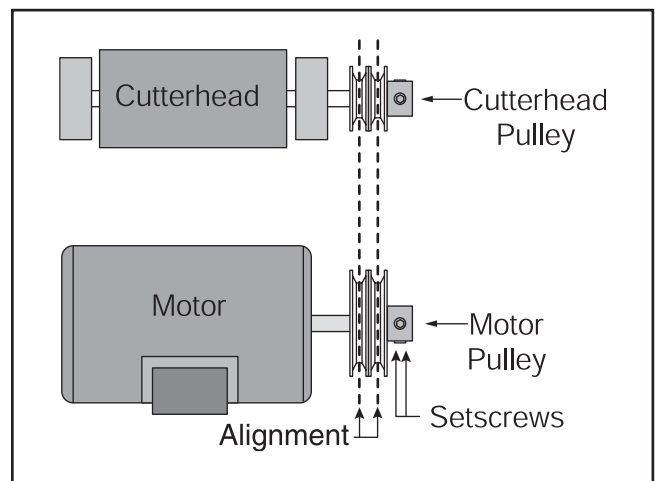

Figure 7. The pulleys should be aligned so the V-belts are straight up and down.
5. Visually check the alignment of the two pulleys (**Figure 7**) to make sure that they are aligned and that the V-belts are straight up and down between the pulleys.